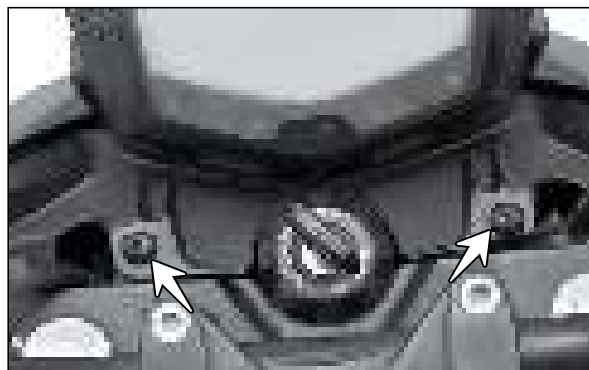

Fig. 6.67
- Remove the CRR pan head screw (M6x25 - 2 Nos.) housing head lamp front top mounting. (Fig. 6.67)